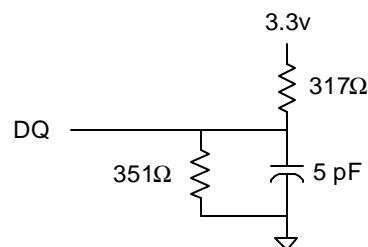

Fig. 2 OUTPUT LOAD EQUIVALENT
6. Output loading is specified with  $CL=5pF$  as in Fig. 2.